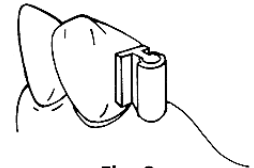

Fig. 8
14. Place nylon clip over the male (Fig. 8).